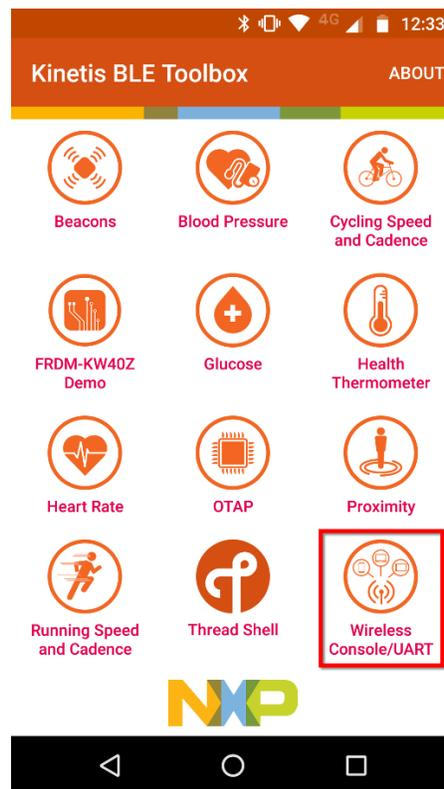

Figure 29. Wireless Console/UART
2. Open the NXP IoT Toolbox in one smartphone supporting BLE and select Wireless Console/UART option shown in Figure 29.